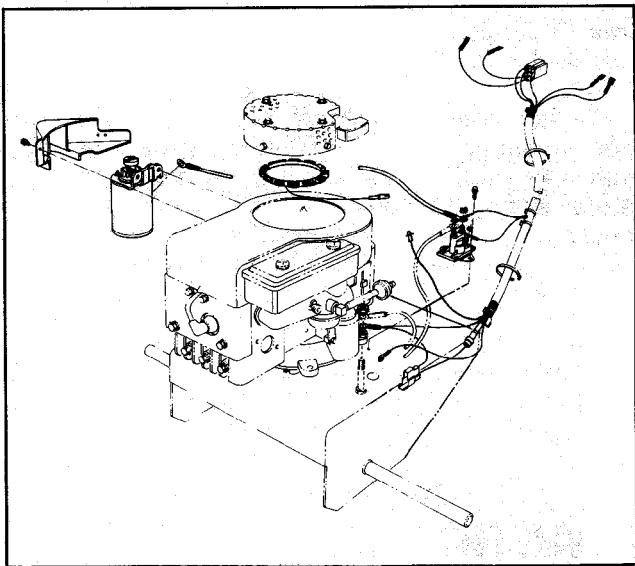

Figure 6
- Note:** A harness wire (yellow) is not used for this assembly. Fold the wire under and slip the end back into the harness insulating cover to secure it from possible damage (Fig. 6).
9. Connect engine alternator wire to (orange) harness wire (Fig. 6).